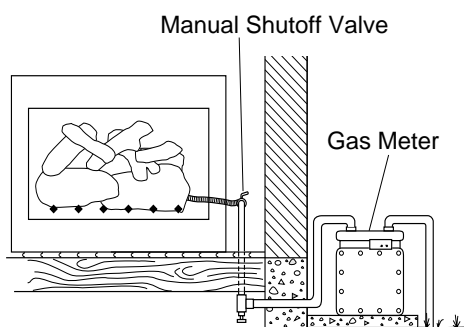

Figure 7 - Checking Gas Joints
1. Close manual shutoff valve (see Figure 7).
3. Check all joints from gas meter to manual shutoff valve (see Figure 7). Apply mixture of liquid soap and water to gas joints. Bubbles forming show a leak.